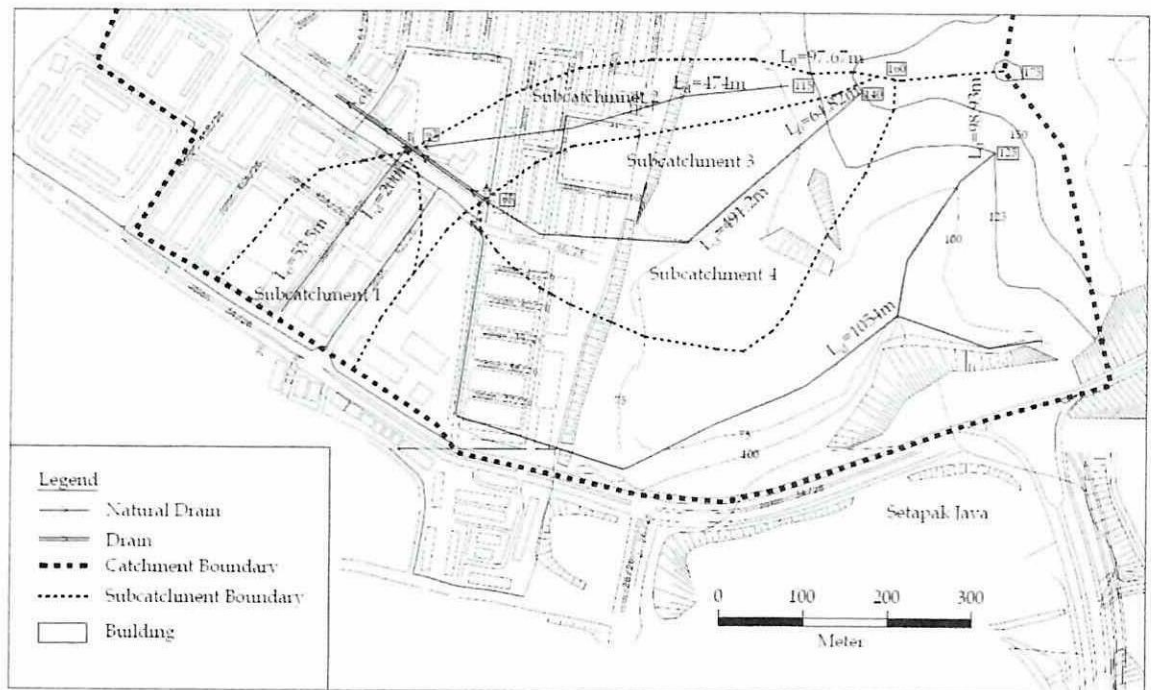
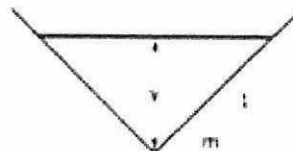

Figure Q2.1 This figure shows the sub catchment drainage.
Figure Q2.2 This figure shows the dimensions of channel geometry.
- (b) **Figure Q2.1** shows drainage catchment of Wangsa Maju. Calculate time of concentration, t_c at Subcatchment 1. The slope of overland surface is 3.74% and the friction slope of the channel is 0.02. From the site visit, the depth and the width of the triangular channel are 0.3 m and 0.6 m, respectively. Assume Horton's Roughness, n and manning coefficient, n are both equal to 0.015. The proposed channel geometry for the drainage system **Figure Q2.2**.